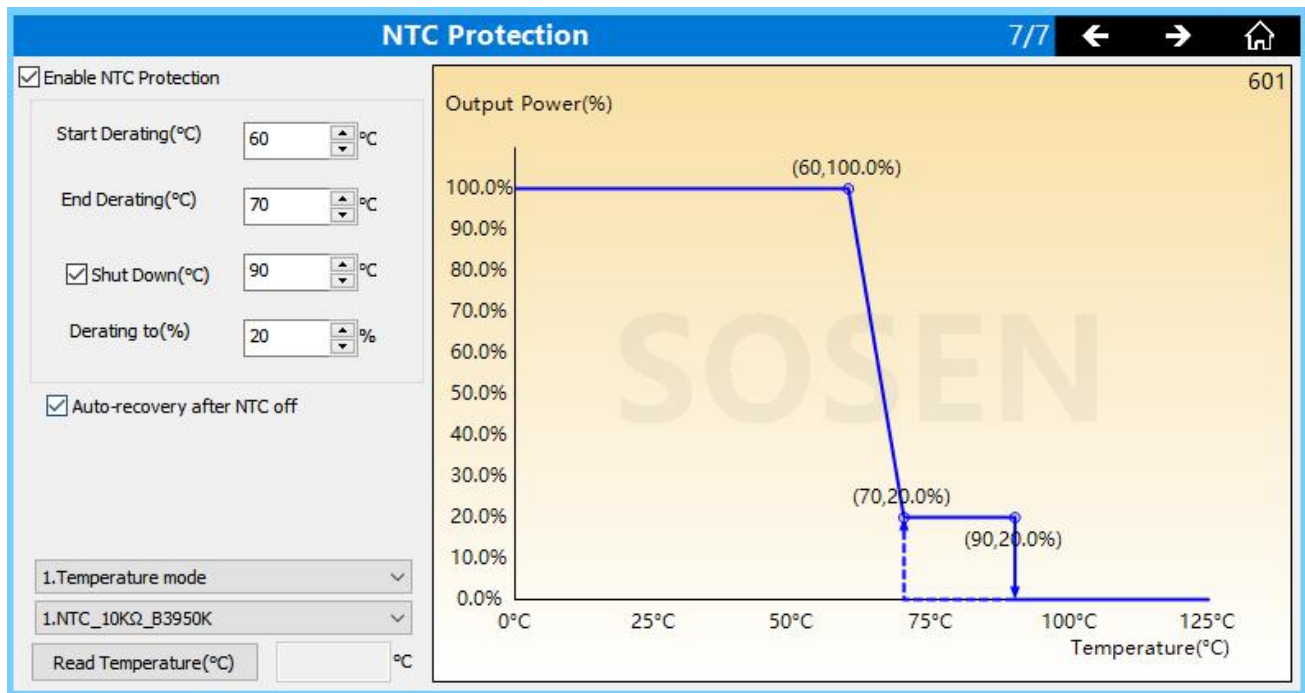
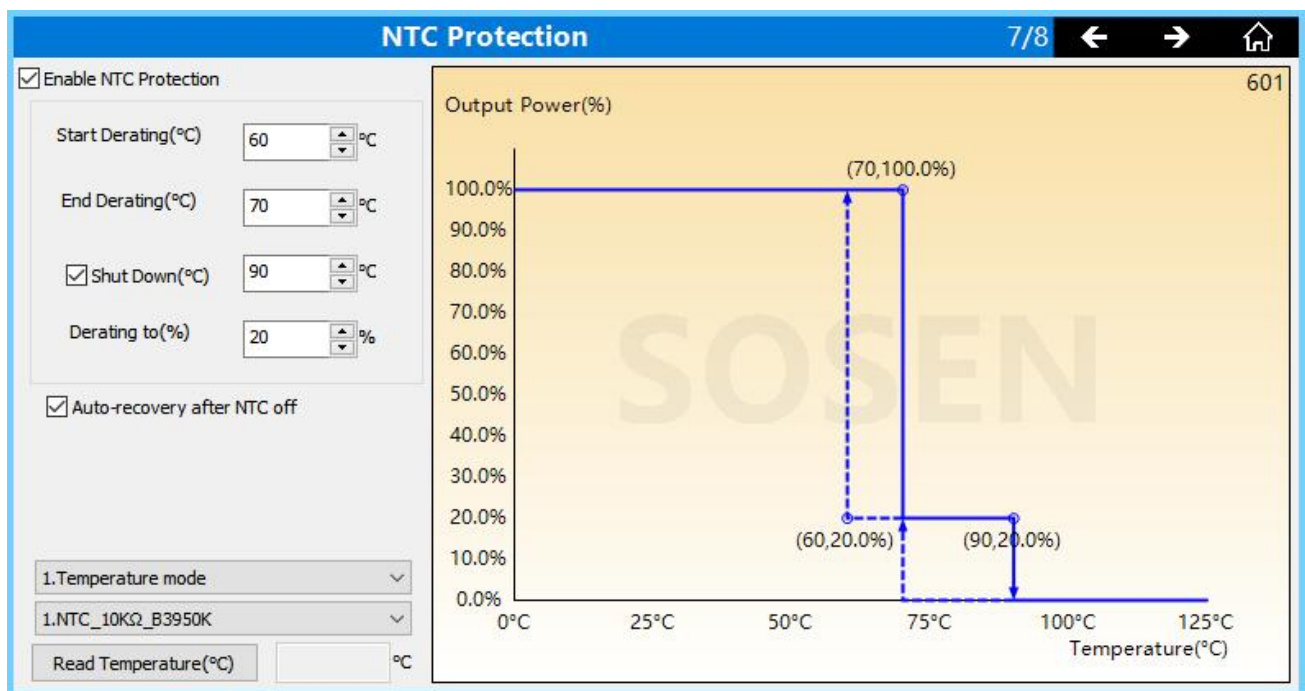

Figure 2
Figure 3
b. Other models support NTC functions, such as the 601 function interface shown in Figure 2 and Figure 3. These models support two types of NTC function logic, which can be selected through the "Model Characteristic Parameters" interface. Examples of models that support this function are the 1200NP-M430BHN.
c. Running logic 1: According to "Model Characteristic Parameters" interface - "NTC running logic" option, select "Running logic 1", set the parameters as shown in Figure 2, as shown in the blue line, when the temperature is below 60°C, the output power is 100%; when the temperature is greater than 60°C and less than 70°C, the output power will run according to the slant line between 60°C and 70°C. As shown in the blue line, when the temperature is lower than 60°C, the output power is 100%; when the temperature is greater than 60°C and less than 70°C, the output power runs according to the slanting line between 60°C and 70°C, and the output power will be accompanied by the lowering and raising as the temperature increases and decreases; when the temperature is greater than 70°C, the output power will be reduced to 20% and kept at 20%; when the temperature is greater than 90°C, the output will be turned off; after NTC is turned off, you can choose to restore the output according to the checkbox option, and then the output will be restored. The output can be restored or not according to the checkbox option. In addition, setting the shutdown temperature
d. Running logic 2: According to "Model Characteristic Parameters" interface - "NTC running logic" option, select "Running logic 2", set the parameters as shown in Figure 3, as shown in the blue line, when the temperature is lower than 70°C, the output power is 100%; when the temperature reaches or greater than 70°C, a derating event will be triggered, and the output power will be derated by 5% from the current actual level. As shown in the blue line, when the temperature is lower than 70°C, the output power is 100%; when the temperature reaches or is greater than 70°C, a derating event will be triggered, and the output power will be derated by 5% from the current actual level, for example, if the current output power level is 100%, then the output level will be derated to 95%, and if the temperature is still greater than or equal to 70°C after a 2-minute time interval, a derating event will be triggered again, and the interval between two derating events will be at least 2 minutes. If the temperature is still greater than or equal to 70°C, a derating event will be triggered again. When multiple derating events occur, the output level will be reduced to a minimum of 20% and remain at 20%; regardless of the current output level at which the output level is at, when the temperature drops to 60°C, the output level will return to 100%. When the temperature is greater than or equal to 90°C, the output will be turned off; after the NTC is turned off, the output level will be restored to 20% when the temperature drops to 70°C; the output can be restored or not according to the checkbox. In addition, setting the shutdown temperature to less than or equal to the